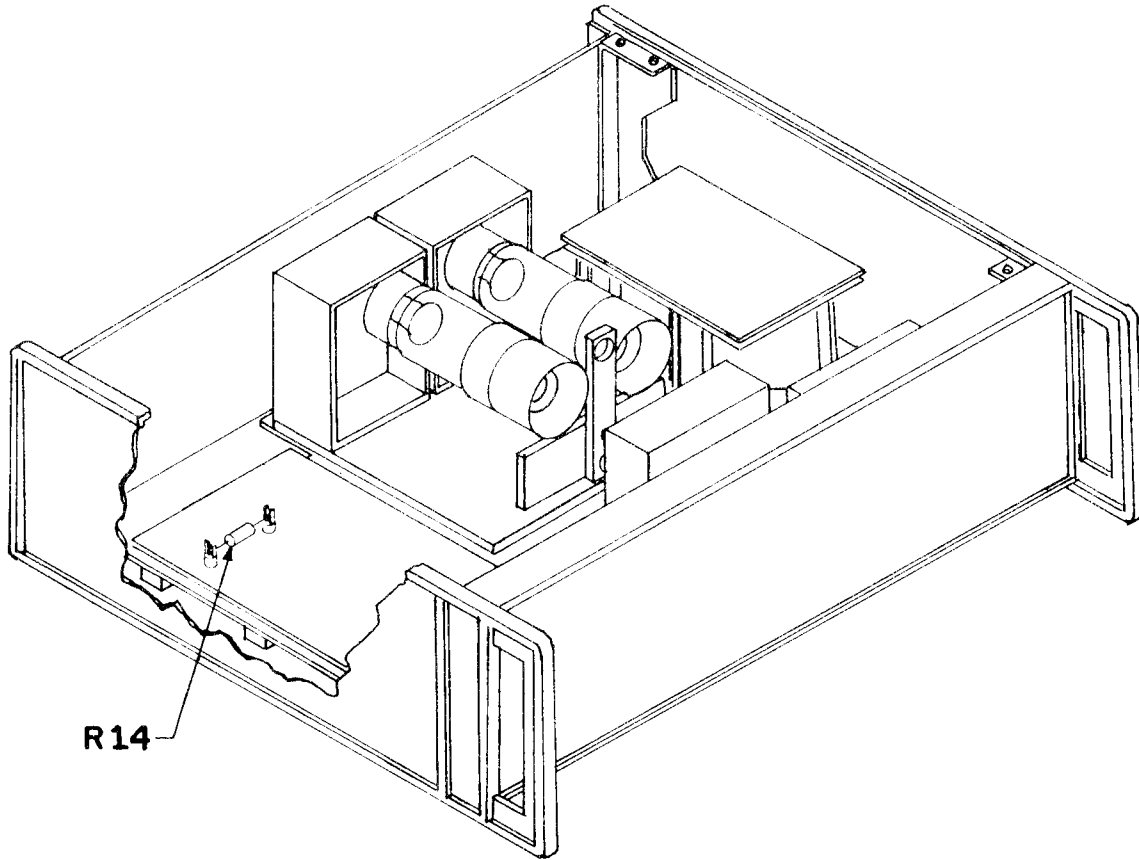

Figure 84. Remove R14 Resistor
- d. Remove the resistor, R14, mounted on raised bases (see Figure 84). Replace resistor R14 with a capacitor of 0.1 uf at a minimum of 25 volt rating.